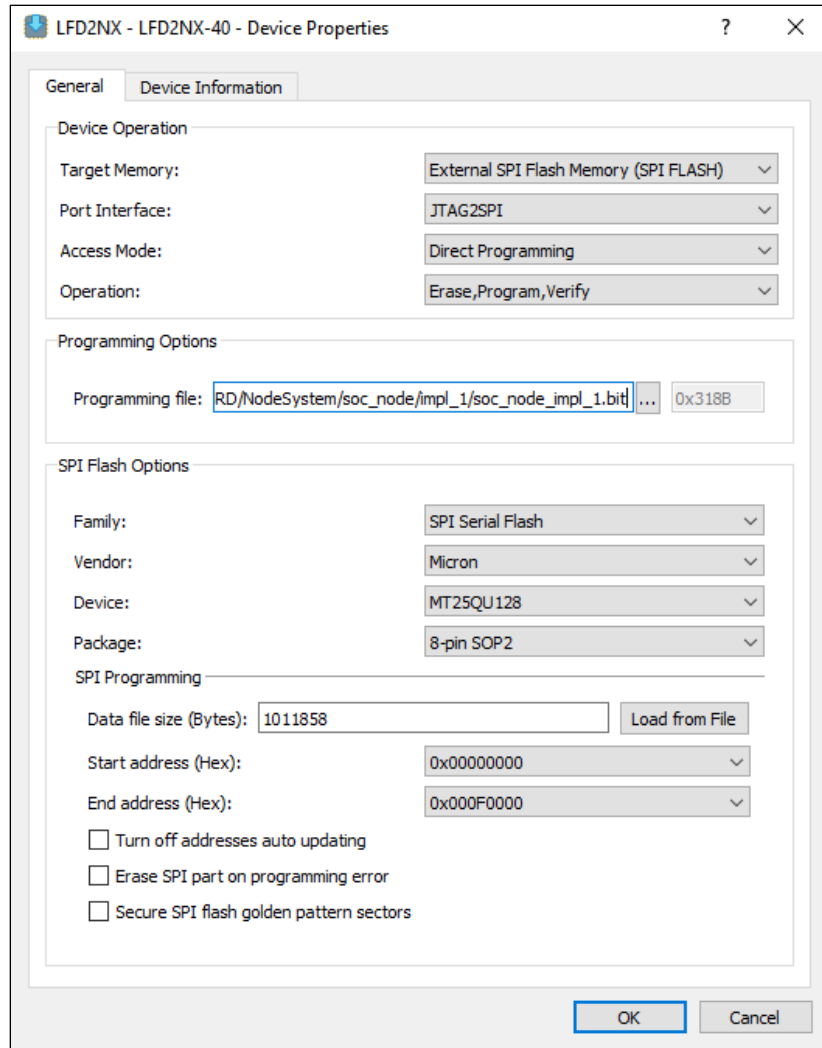

Figure B.15. Radiant Programmer – Bit Stream Flashing Settings (Node System)
8. To program the bitstream file, select the options as shown in Figure B.15.